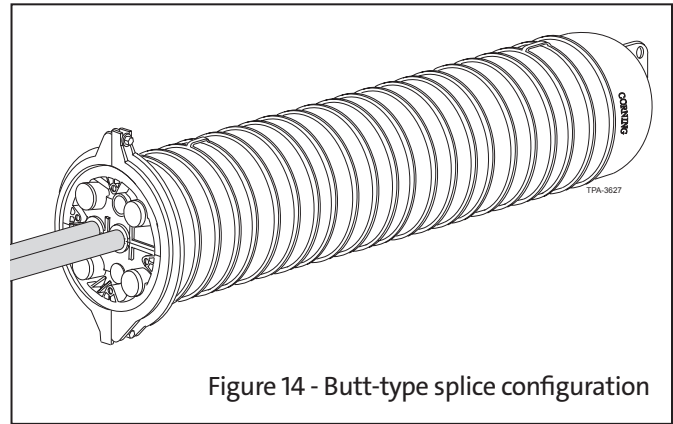

Figure 14 - Butt-type splice configuration
1. Corning Optical Communications recommends that cable splices use a “butt type” configuration; i.e., both cables enter the same end of a closure, for ease of storing (Figure 14).